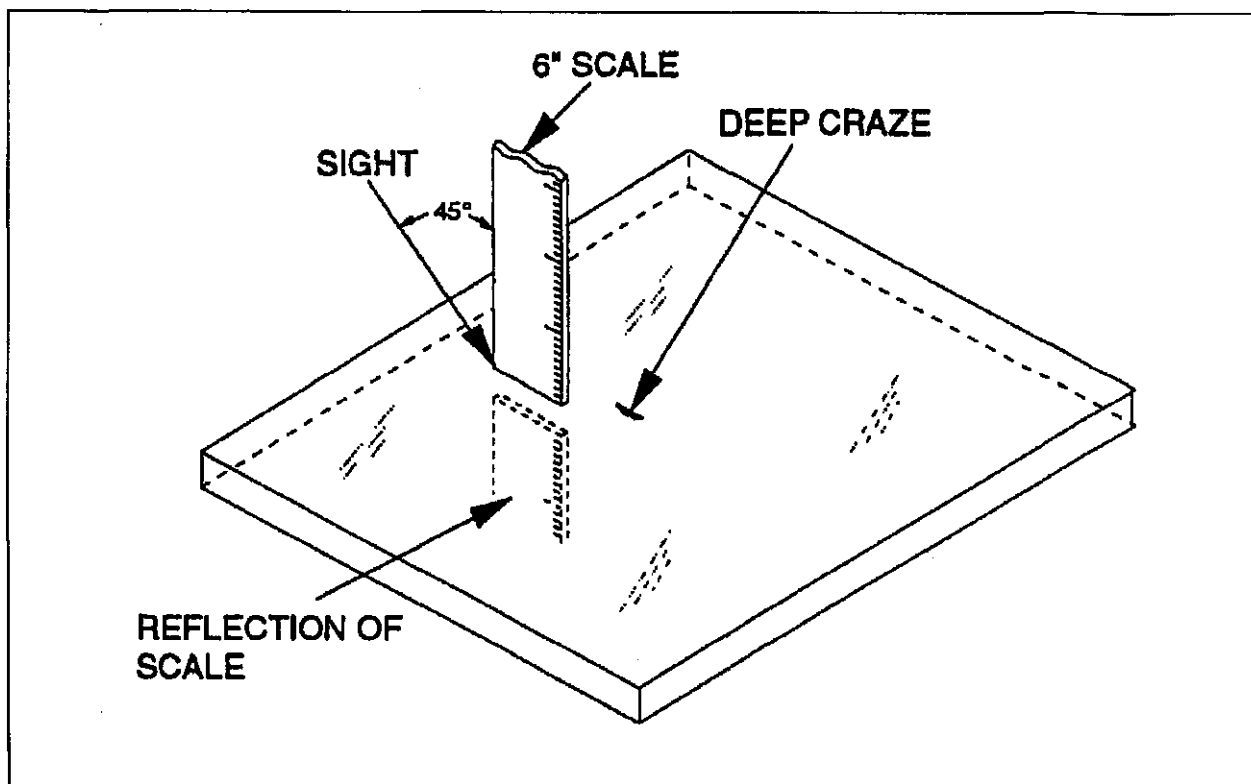

Figure 14-APP-1. Determining Depth of Craze.
- (1) Cracks could occur in either the inner, outer, or both panes. Cracking in either pane is critical and cause for immediate replacement.
- (2) **Crazing.**
- (b) Determine depth of craze using a calibrated depth gauge or scale (see Figure 14-APP-1).
- (3) **Blemishes.**
- (4) Haze or foggy appearance on the glass is not acceptable if the amount of haze/fog causes an obstruction of vision in the area used for operation of the aircraft.
- (5) **Scratches.**
- (3) Cracking.